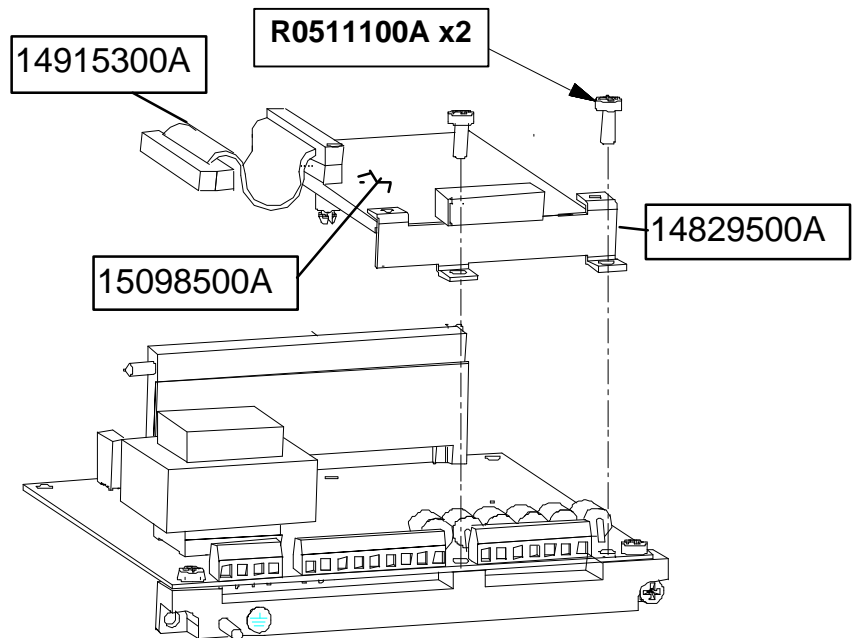

Figure 6-3 Allen-Bradley PCB Installation in Panel Mount Enclosure
7. Attach the Allen Bradley Option PCB to the Controller PCB with 2 screws (R0511100A) and 2 nuts (R0519600A) (Figure 6-3).